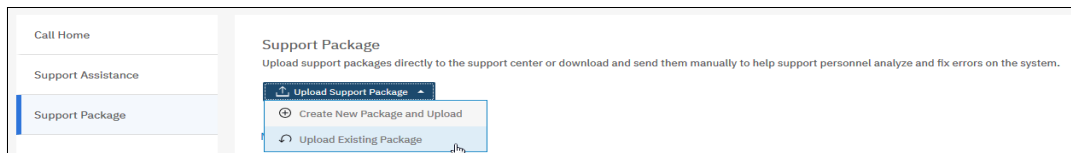

Figure 12-121 Upload Existing Package
19. If you decide that you want to upload the support package later, you can use the function that is shown in Figure 12-121.